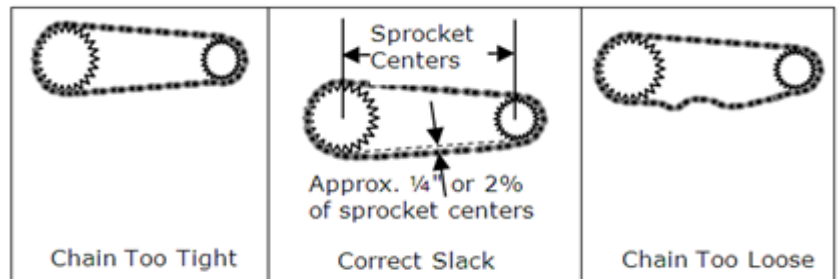

FIGURE 2.2 *Drive Chain Sag*
- Chain should have sag on the slack side (see *Figure 2.2*). Measure the sag half way between the two sprockets.